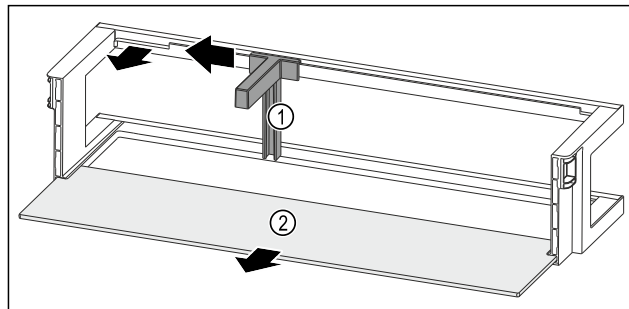

Fig. 85 Door racks with bottle holder and shelf
- ▶ Push the bottle holder Fig. 85 (1) to the side up to the recess.
- ▶ Remove the bottle holder Fig. 85 (1).
- ▶ Remove the shelf Fig. 85 (2).